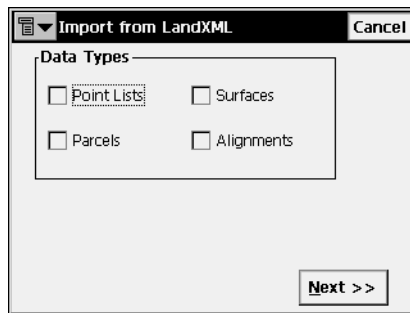

Figure 5-10. import From LandXML
1. Choose specific data type from the appropriate file (Figure 5-10), then tap **Next**.